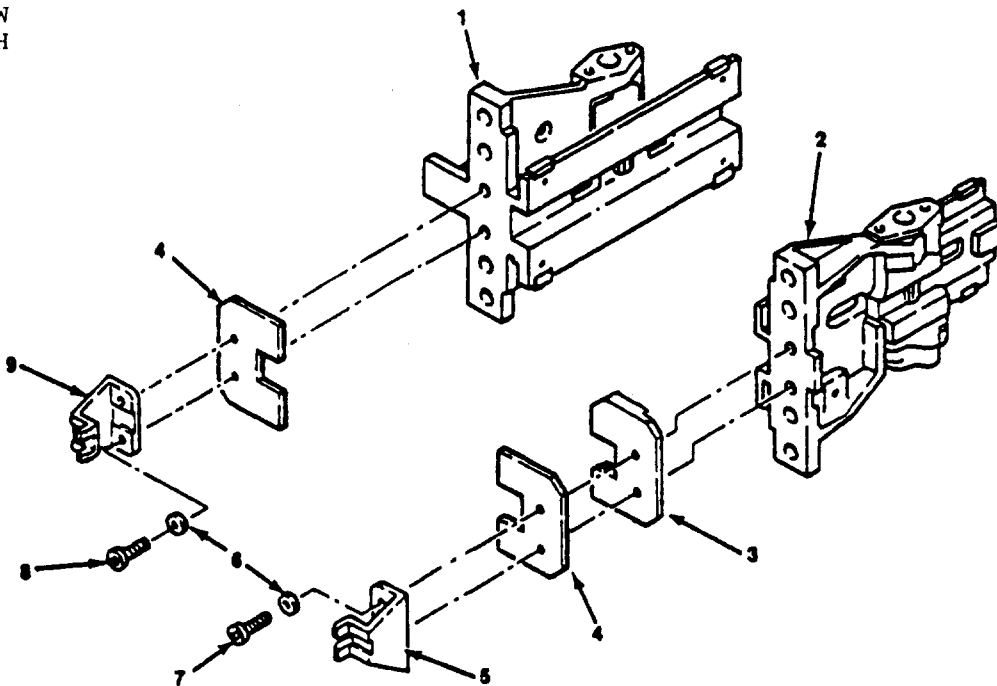

Figure 201 - Pinion Gearbox Catch Shimming
- A. **Pinion Gearbox to Catch Shimming (Figure 201).** This procedure ensures that both sequence latches contact their respective catches simultaneously within 0.016 inches of each other.
- (1) Refer to Maintenance Practices of 78-30-04 to install translating structure into the aft nacelle.
- (2) Temporarily disassemble the sequence latches, insuring that piece parts of each latch are kept together for later reassembly. Install the sequence latch stop housings on the forward end of each translating beam. If not previously marked, mark the stop housings "Inboard" or "Outboard" as applicable.
- (3) Grasp the translating structure at the top and bottom centerline and pull straight aft. Ensure no side pull is exerted.
- (4) Stop pulling when either stop housing just contacts its respective pinion gearbox. If both stop housings contact their pinion gearboxes simultaneously, proceed to Paragraph 3.B.
- (5) Where one stop housing contacts its respective pinion gearbox, mark the translating beam on the opposite side for position.
- (6) Continue to pull aft until the other stop housing contacts its pinion gearbox and again mark the beam previously marked in Step (5).
- (7) Measure the distance between the two marks. If the distance is 0.016 inch or less, no shims are required and proceed to Paragraph 3.B. where the distance is greater than 0.016 inch, accomplish the steps listed below.
- (8) If a shim is required on the outboard side, one step shim (Item 3, Figure 201) must be installed under the catch on the outboard gearbox.
- (9) Calculate the remaining shimming required under the catches of both inboard and outboard pinion gearboxes to obtain 0.016 inch or less side-to-side difference. Use shim (Item 4, Figure 201) for additional shimming.
- (10) Repeat Steps (3) through (7) to verify that contact from side-to-side is 0.016 inch or less. If not re-shim as required.